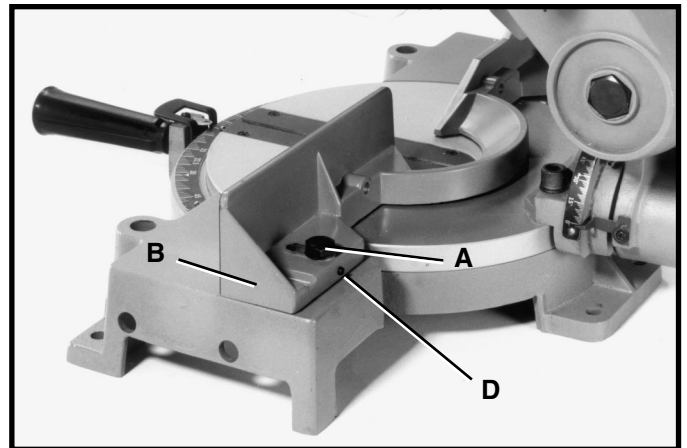

Fig. 26
3. Loosen the two fence locking screws, one of which is shown at (A) Fig. 26, and move the fence (B) all the way to the forward position, as shown. Then tighten the two fence locking screws (A).
6. If an adjustment is necessary, loosen the two fence locking screws (A) Fig. 26, and turn the two adjusting screws, one of which is shown at (D) Fig. 26, until you are sure fence is at 90 degrees to the blade when the fence is all the way forward and tighten the two fence locking screws (A) Fig. 26.